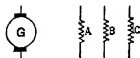

FIG. 42: The same voltage exists across each of the branches  $A$ ,  $B$  and  $C$ .
**Prob. 18-2.** Generator  $G$  (Fig. 42) maintains a voltage of 550 volts across resistors  $A$ ,  $B$  and  $C$  of 10, 65, and 500 ohms resistance respectively. What is the current in each and what is the current supplied by the generator?